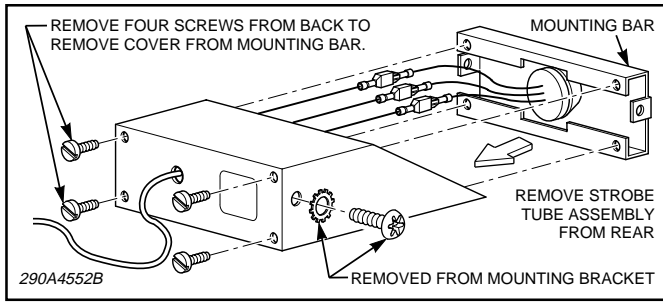

Figure 5.
- See figure 5. Remove and retain the screws which secure the visor to the mounting bar.